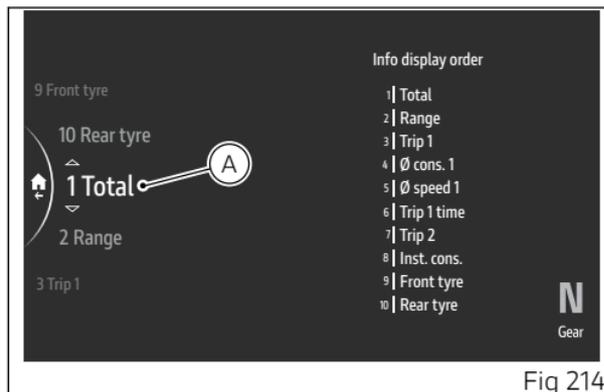

Fig 214
- Two arrows (A, Fig 214), are displayed above and below the position number indicating that it can be changed from 1 to 10 (in this example "3") using the corresponding joystick positions ▲ ▼.